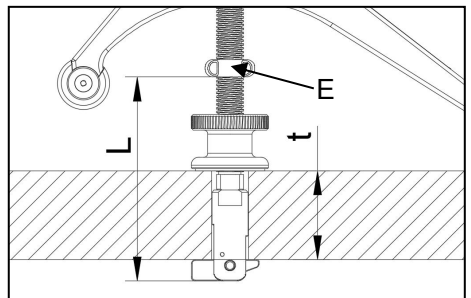

Fig.5
2. Loosen the two set screws on the **Stop Block (E)** and set distance **(L)** between the Stop Block (E) and the bottom of the arch hold down as shown in Fig. 5.